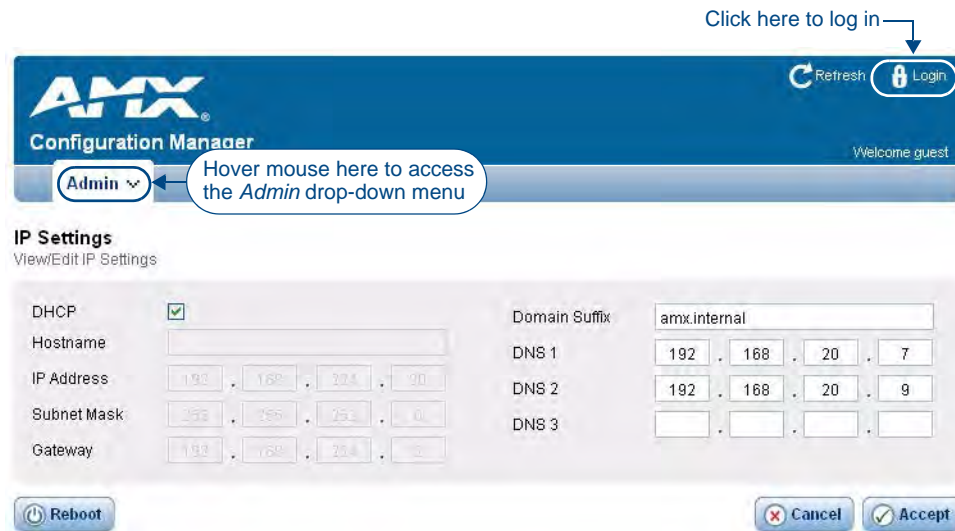
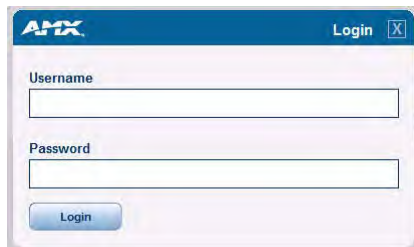

FIG. 14 Configuration Manager - IP Settings Page (initial view)
FIG. 21 Configuration Manager - Login popup page
UDM-0808-SIG hubs have a built-in WebConsole that allows you to make various configuration settings via a web browser on any PC that has access to the Hub. The web console consists of a series of web pages that are collectively called the "Configuration Manager" (FIG. 14).
2. Press Enter to access the WebConsole for the specified UDM-0808-SIG Hub. The initial view is the *IP Settings* page (see FIG. 14 on page 23).
1. Click the **Login** link in the upper-right corner of the initial page (FIG. 14). This invokes the Login popup page (FIG. 21).